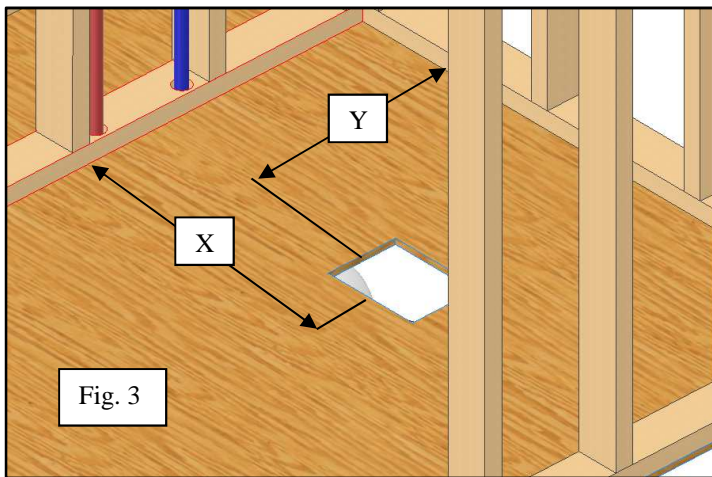

Fig. 3
- 4) A code approved drain outlet should be used. Be sure to use silicone or plumber's putty between the chrome flange and the finish side of the shower. Measure and cut access for drain. (Fig.3)